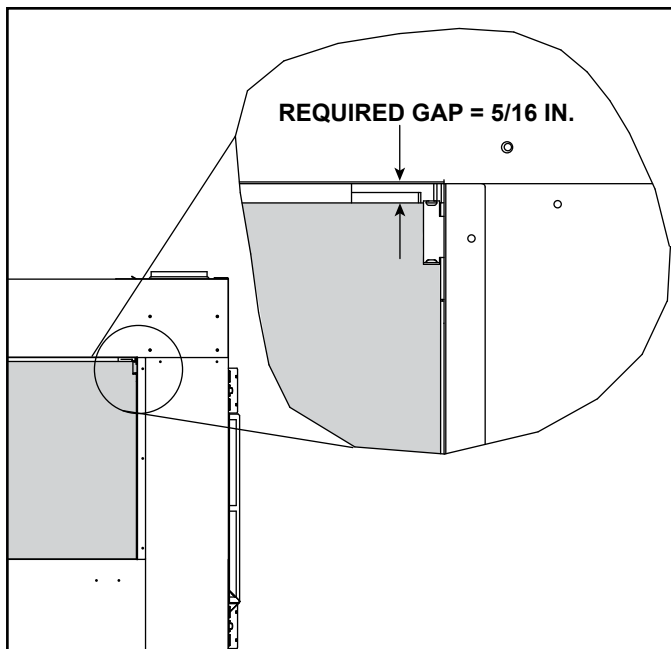

Figure 11.27 Barrier Glass Retaining Clip Installed
**Note:** When barrier glass is properly placed, a 5/16 inch gap is maintained between the top of the barrier glass and the top of the appliance opening. See Figure 11.27.